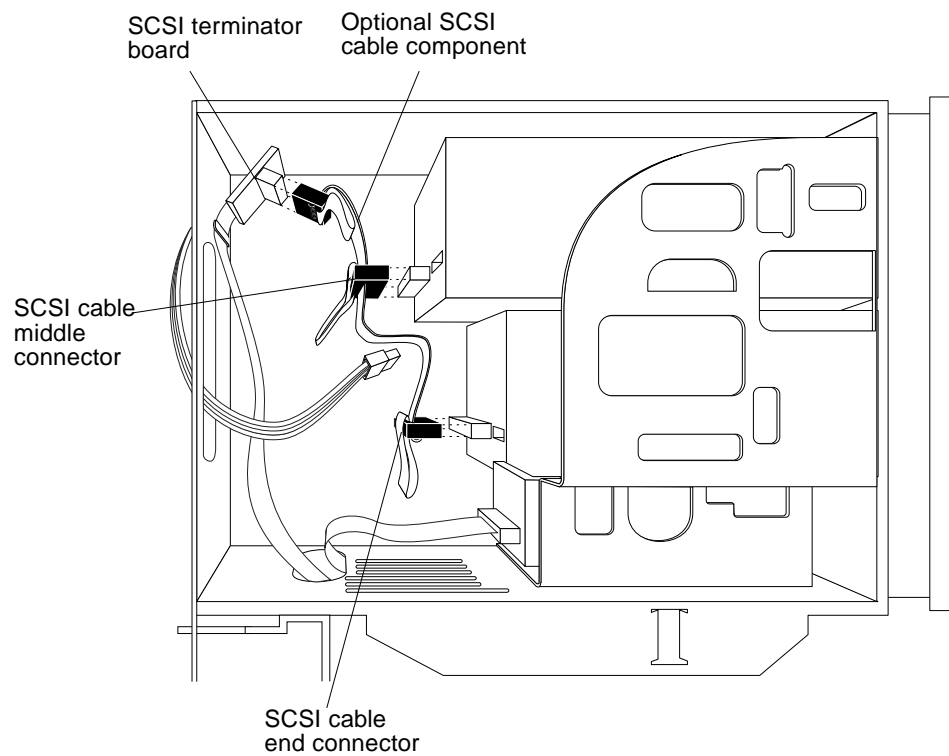
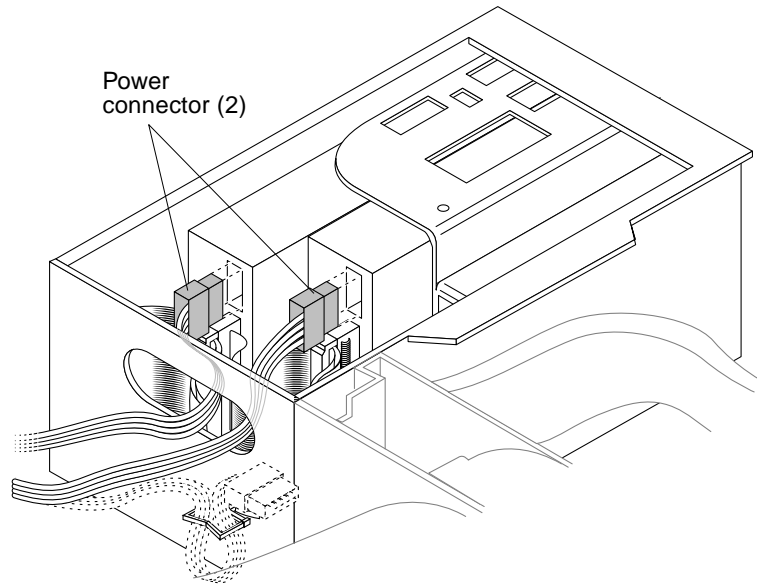

FIGURE 4-1 Installing the Optional SCSI Cable Component
FIGURE 4-2 Reinstalling the Power Cables
- 3. Install the optional SCSI cable as follows (FIGURE 4-1 and FIGURE 4-2):**